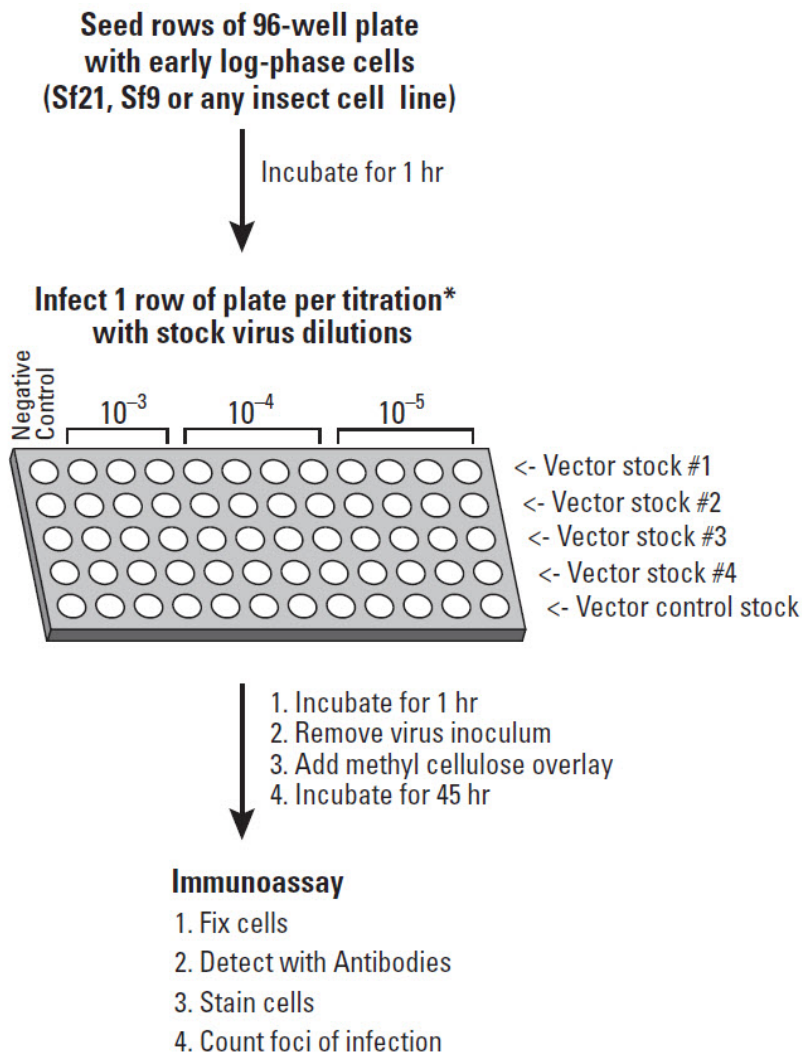

Figure 2. Flowchart of the BacPak Rapid Titer assay procedure. *Sufficient reagents are supplied for 5 titrations (60 wells).
Viral infection at the correct multiplicity of infection is critical to achieving optimal protein yields with baculovirus gene expression. There are some drawbacks to common titering methods, including plaque and endpoint dilution assays: these assays generally take 5–8 days and require extensive baculovirus experience to perform. In contrast, the Rapid Titer Kit is a standard immunological assay (Figure 2) which takes only two days. Infected cells express viral antigens long before plaques are formed, so titers are determined by antibody detection of those antigens after a much shorter incubation period (Volkman & Goldsmith, 1982).
In this titrating method (Figure 2, below), a primary monoclonal antibody raised to an AcMNPV envelope glycoprotein (gp64) labels infected cells in replicate samples. A secondary HRP-conjugated antibody stains the infected cells so the number of infected foci can be counted under light microscopy. Then the titer can be determined since the number of infected foci corresponds to the multiplicity of infection. Assaying multiple wells at the same viral concentration is essential since there may be a slight well-to-well variation. The Rapid Titer Kit provides sufficient reagents for performing five assays (one assay is 12 wells in a 96 well plate), and is suitable for titrating any virus stock with a titer of more than 2×10^4 PFU (plaque-forming units)/ml or IFU (infectious units)/ml. The gp64 antibody is only available as part of the Rapid Titer Kit.
1. Seed one row (12 wells) of a 96-well microtiter plate with early log phase Sf21 or Sf9 cells (6.5×10^4 cells/well). Label wells as shown in Figure 2. The density of early log phase cells used for the viral infection in Step 3 should be $3\text{--}4 \times 10^5$ cells/ml.